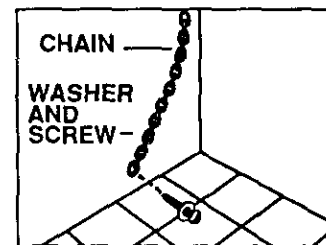
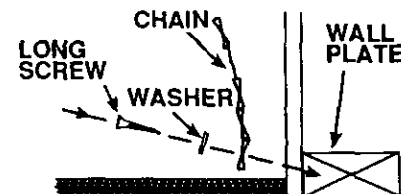

Fig. 2
Fig. 3
- 2) Fasten one end of the stability chain to the floor or the wall with the long screw and washer supplied (See Fig. 2). Make certain the screw is going into the wall plate at the base of the wall or one of the studs in the base of the wall (See Fig. 3). Whether you attach the chain to the wall or floor, be certain that the screw is in at least 3/4" thickness of wood other than baseboard and that there are no electrical wires or plumbing in the area in which the screw could penetrate. Attach the stability chain in a location which will allow the chain to be in line with the bracket side to side as much as possible when attached to the unit. Test to see if the chain is securely fastened by tugging on the chain.